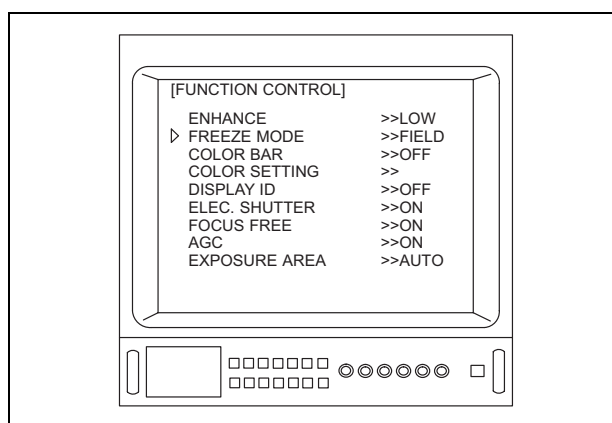

Figure 5.67
4. Depress the menu switches “◀” or “▶”, or the “↑/↓/←/→” key on the keyboard to move the arrow “▷” to “FREEZE MODE” (see Figure 5.67).
- When the OTV-S7V is connected to the ENF-V, CYF-V/VA or HYF-V, “ELEC. SHUTTER” and “EXPOSURE AREA” shown in Figures 5.67 and/or 5.68 are not displayed.
- When the OTV-S7V is connected to the LTF-V3 or A500**A series, “EXPOSURE AREA” shown in Figures 5.67 and/or 5.68 is not displayed.
- When the OTV-S7V is connected to a camera head without the focus free function, or to a videoscope, “FOCUS FREE” shown in Figures 5.67 and/or 5.68 is not displayed.
- Depending upon the OTV-S7V’s settings, the menus shown in Figures 5.67 and/or 5.68 may appear different from those displayed on the video monitor.